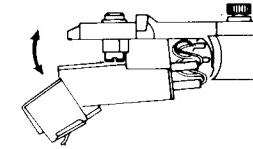

Fig. 18
Hold the cartridge and press the stylus assembly downwards (Fig. 18).
2. Press it upwards with both fingers until it snaps in place (Fig. 18).